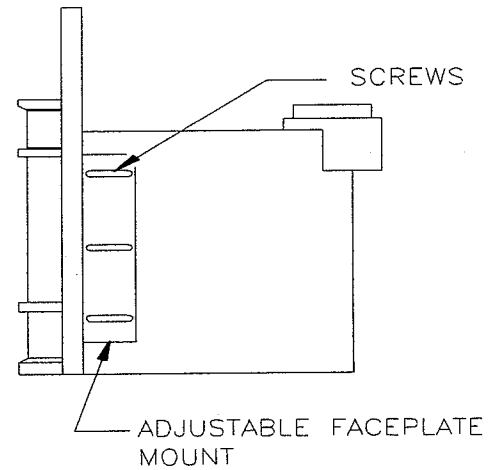

Figure 17b
9. Adjust the faceplate mounts to the desired setting (see Figure 17b).